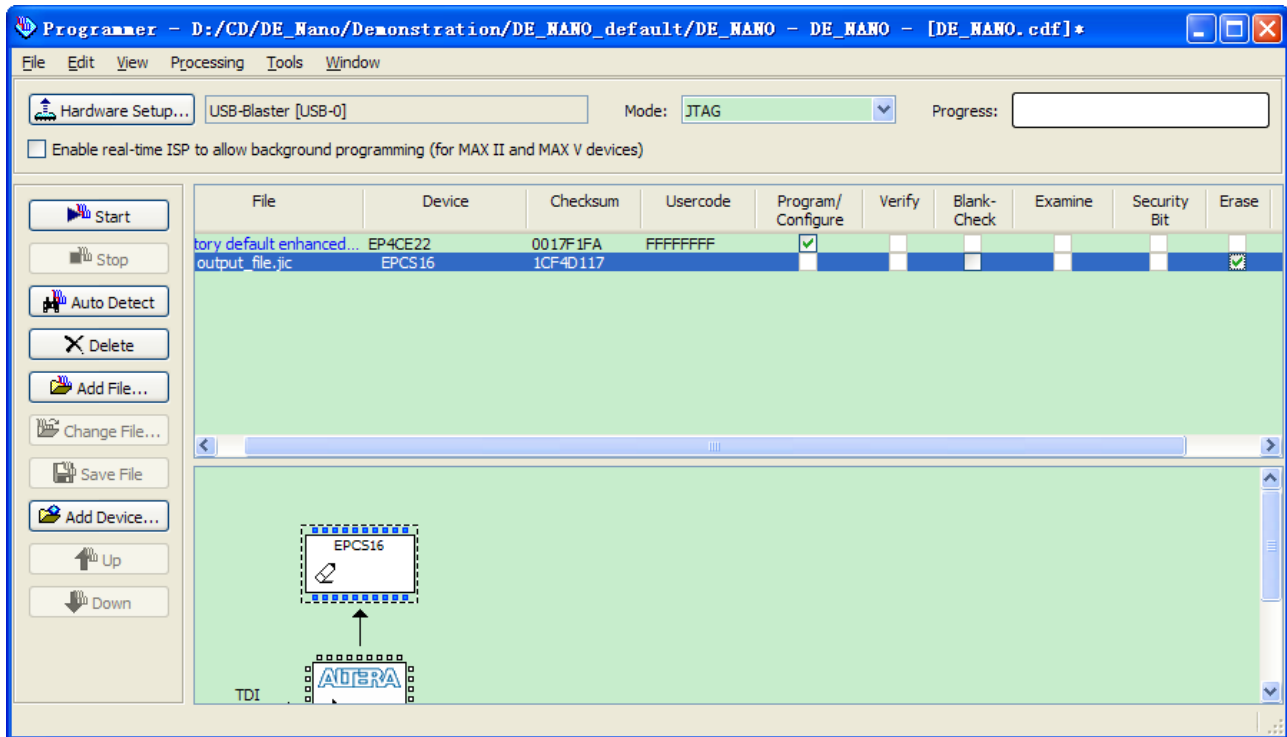

Figure 9-7 Erasing setting in Quartus II programmer window
4. Erase the serial configuration device by checking the corresponding **Erase** box, a Factory default SFL image will be load (See **Figure 9-7**).